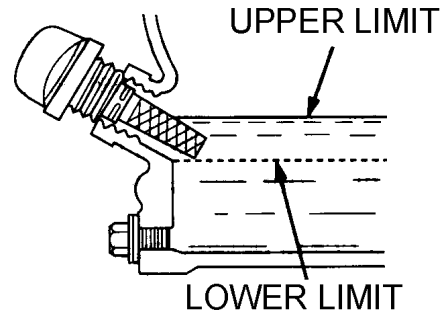

Figure 11. Engine Oil Dipstick(Oil Level)
4. If the oil level is low (Figure 11), fill to the edge of the oil filler hole with the recommended oil type (Table 5). Maximum oil capacity is 1.16 quarts (1.1 liters).